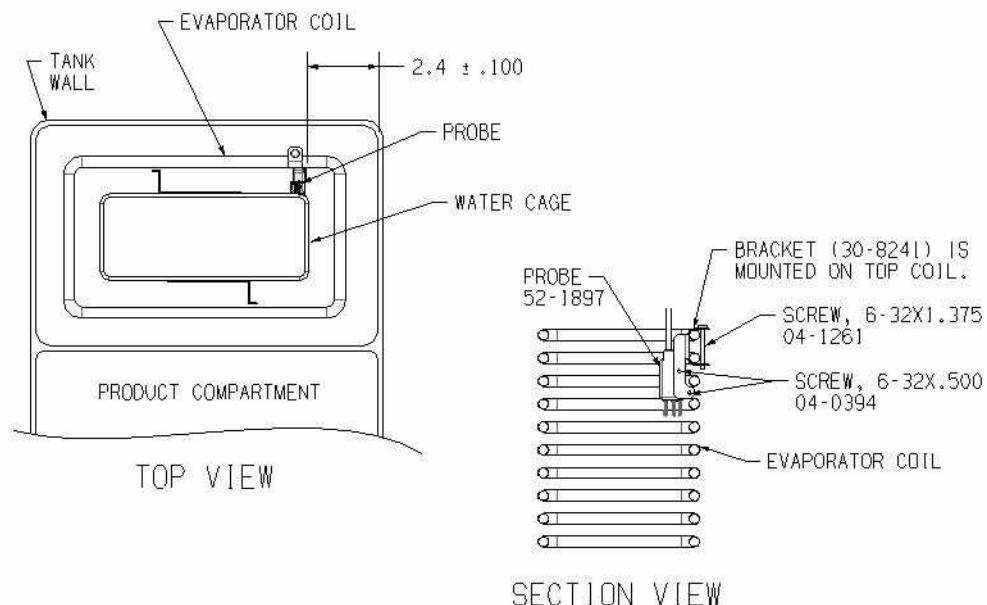

Figure 4
- 1.12 Clip the EIBC Probe Clamp Assembly on the top coil on the inside of the Evaporator Coil, as shown in Figure 4. Using the supplied 6-32 x 1 3/8 screw, secure the Clamp Assembly to the Evaporator Coil.